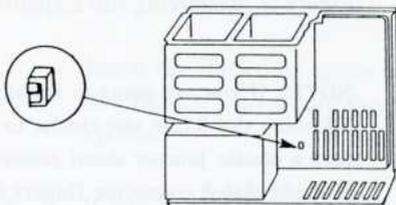

Figure 4B: SW1 in the IBM AT
- b. **In the IBM AT** SW1 is a two-position slide switch. Move it to the color position (toward the front of the chassis). See Figure 4B. After the MaxEGA installation is complete, you will need to run the Setup program.